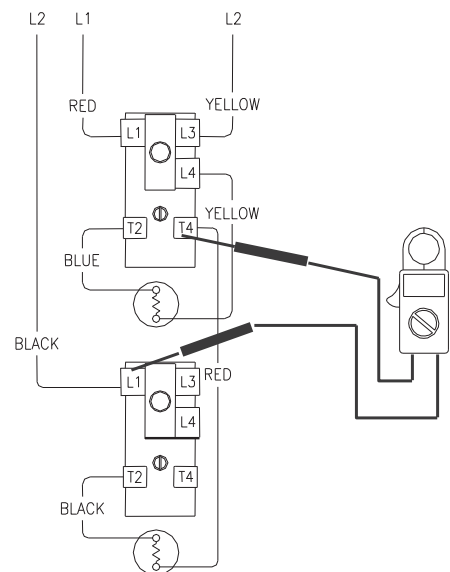

Figure 26
6. Check voltage across terminals T4 of upper thermostat & L1 of lower thermostat (see Figure 26).